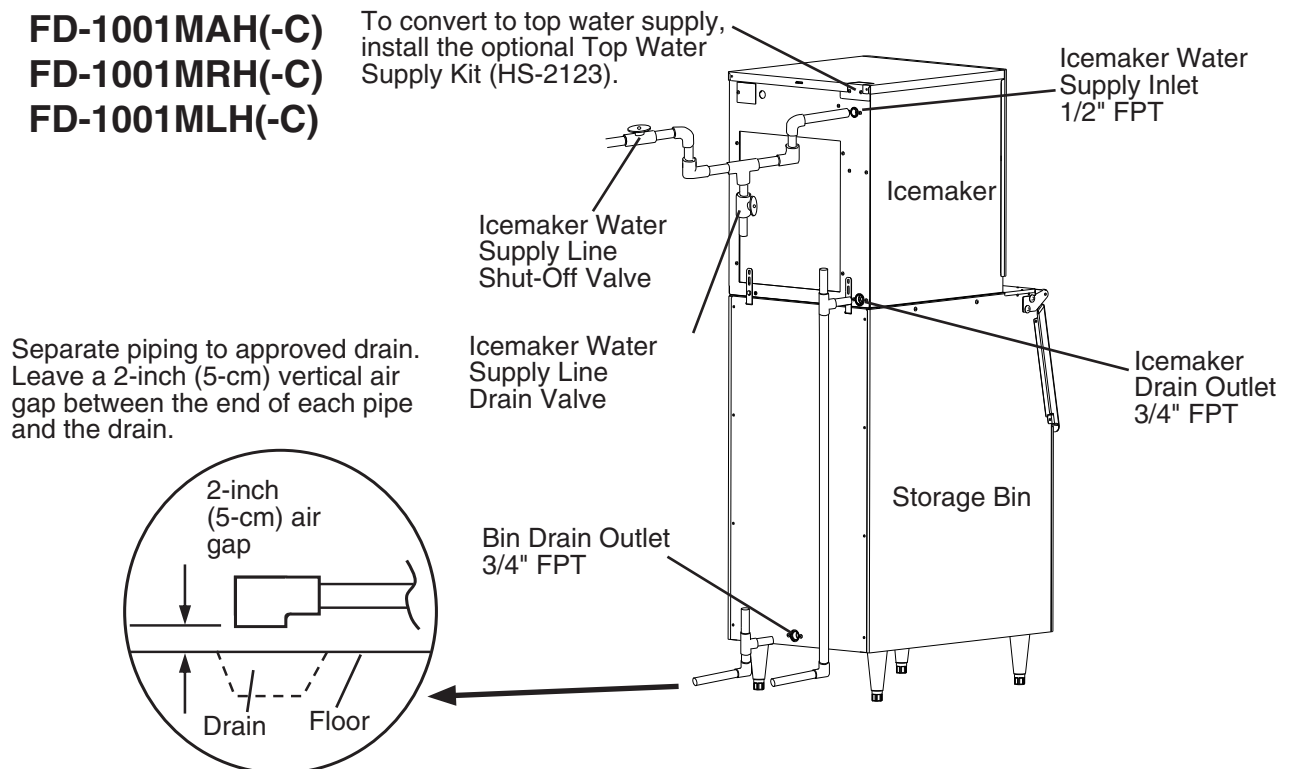

Fig. 14
See Fig. 14, 15, or 16
- 5) Make sure the "GM" LED is on. See Fig. 14. There is a delay of at least 30 seconds before the "GM" LED turns on after power-up. After the "GM" LED turns on, press the "SERVICE" button on the control board to bypass the 5-minute compressor delay. **WARNING! Risk of electric shock. Care should be taken not to touch live terminals.** The "COMP" LED turns on.